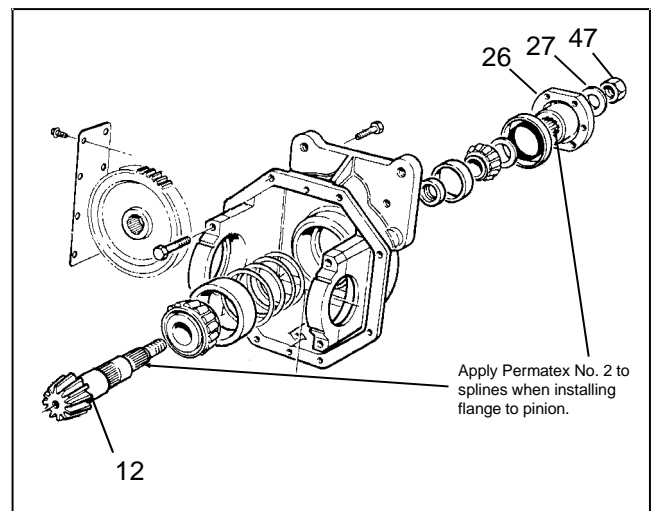

Figure 3B
9. If unit is equipped with 4WD, remove nut (Fig. 3B, Item 47), washer (Item 27) and flange (Item 26) from differential axle pinion (Item 12). Use Differential Gear Holder tool to hold gears when removing nut.
If unit was equipped with a flange for 4WD (no expansion plug), remove oil seal from housing (Fig. 3B).